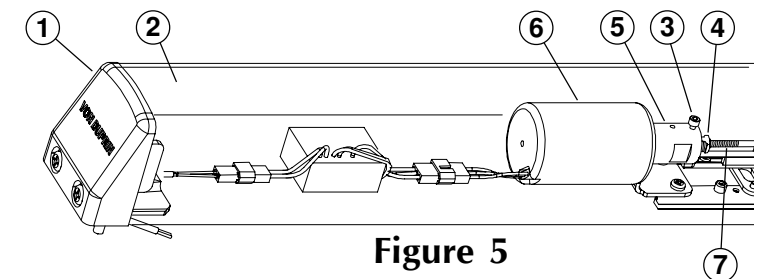

Figure 5
C. Adjust solenoid if dogging rod is too **long** (see Figure 5):
1. Remove end cap ① and dogging cover ②.
2. Loosen cap screw ③.
3. Hold plunger ⑤ depressed in solenoid housing ⑥.
D. Solenoid adjustment if dogging rod adjustment is too **short** (see Figure 5):
4. Turn threaded bushing ④ out to lengthen dogging rod ⑦ so plunger ⑤ just bottoms in solenoid housing ⑥ and latch bolt is fully retracted.